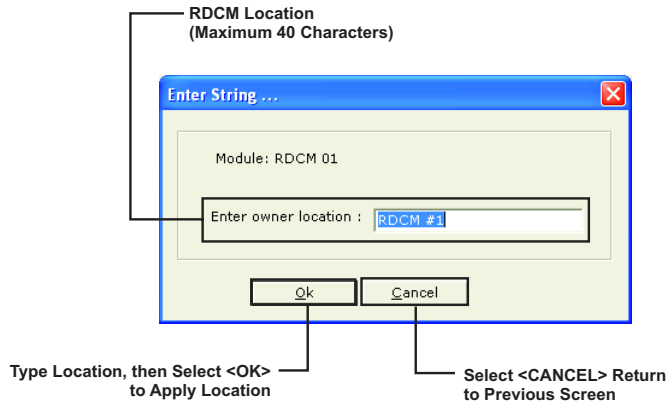

Figure 2-36. RDCM Location Screen
2. Enter the range of either RDCM(s) (1 to 15) or ATM(s) (1 to 16) being used, then click **<OK>**. Figure 2-36 displays (if ATM is being used, the dialogue in the screen reflects ATM).